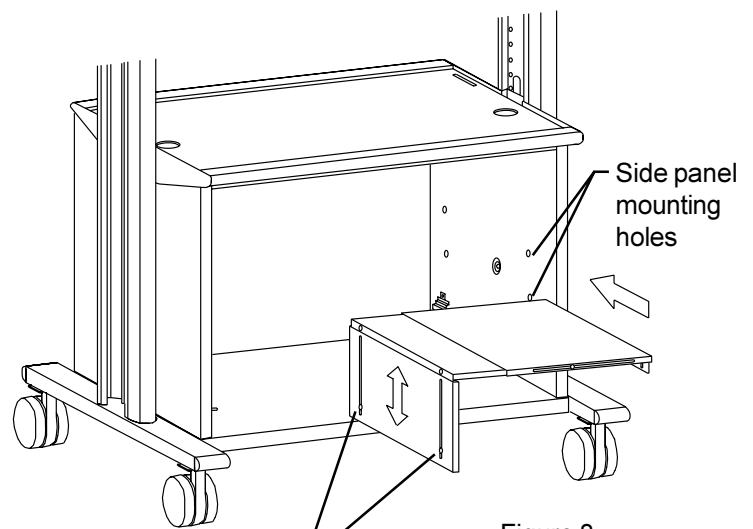

Figure 8
From the rear of the cart, position the shelf assembly as shown in Figure 8. Determine your height requirement utilizing the mounting holes on the interior wall of the cart side panel. Then tighten the (2) 10-32 screws (OO) on the shelf upright (See Figure 8).